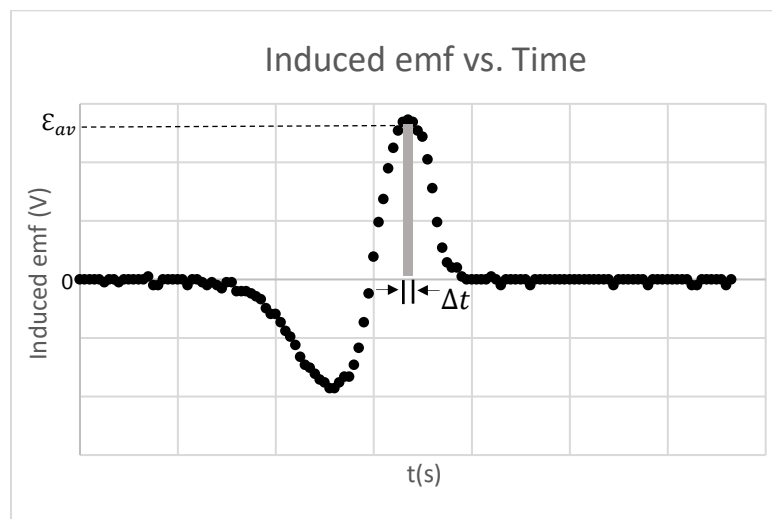

Figure 7
A graph of $\mathcal{E}_{induced}$ versus time thus shows a change in sign at the time when the magnet passes through the center of the solenoid. A typical graph of $\mathcal{E}_{induced}$ versus time is shown in Figure 7.
Consider the time interval Δt shown in Fig. 7. If the average emf during this time interval is \mathcal{E}_{av} , as shown in Fig. 7, then the product $\mathcal{E}_{av}\Delta t$ represents the *area under the graph* during the time interval Δt (the area of the shaded rectangle in Fig. 7). Rearranging Eq. (1) slightly, we find:
Thus the area under the graph is proportional to the *change in the magnetic flux* through the solenoid. For the first peak in Fig. 7 (the *negative* peak), the area between the $\mathcal{E}_{induced}$ curve and the horizontal axis represents the total change in flux during the time that the magnet is falling *into* the solenoid, *toward* the *center* of the solenoid. For the second peak in Fig. 7 (the *positive* peak), the area under the graph represents the total change in flux during the time that the magnet is falling *out* of the solenoid, *away from* the center. Because magnetic field lines
always form *closed loops*, all of the flux that *enters* the solenoid (while the magnet is falling *in*) must *leave* the solenoid (while the magnet is falling *out*). Thus, we expect the corresponding areas in the graph of Fig. 7 to be *equal to one another*. In this experiment, you will make measurements of this kind using data you obtain by dropping your magnets through your solenoid.